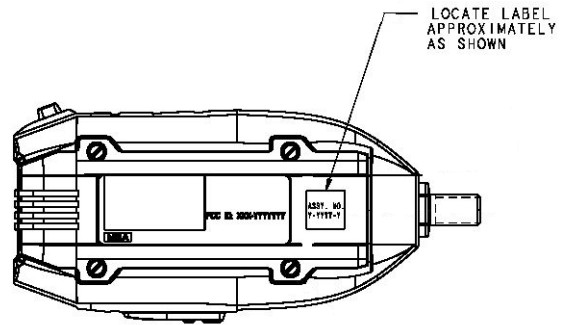

Figure 1
2. Apply the appropriate label to the new replacement battery cover as shown in the figure 1. Discard the remaining labels.